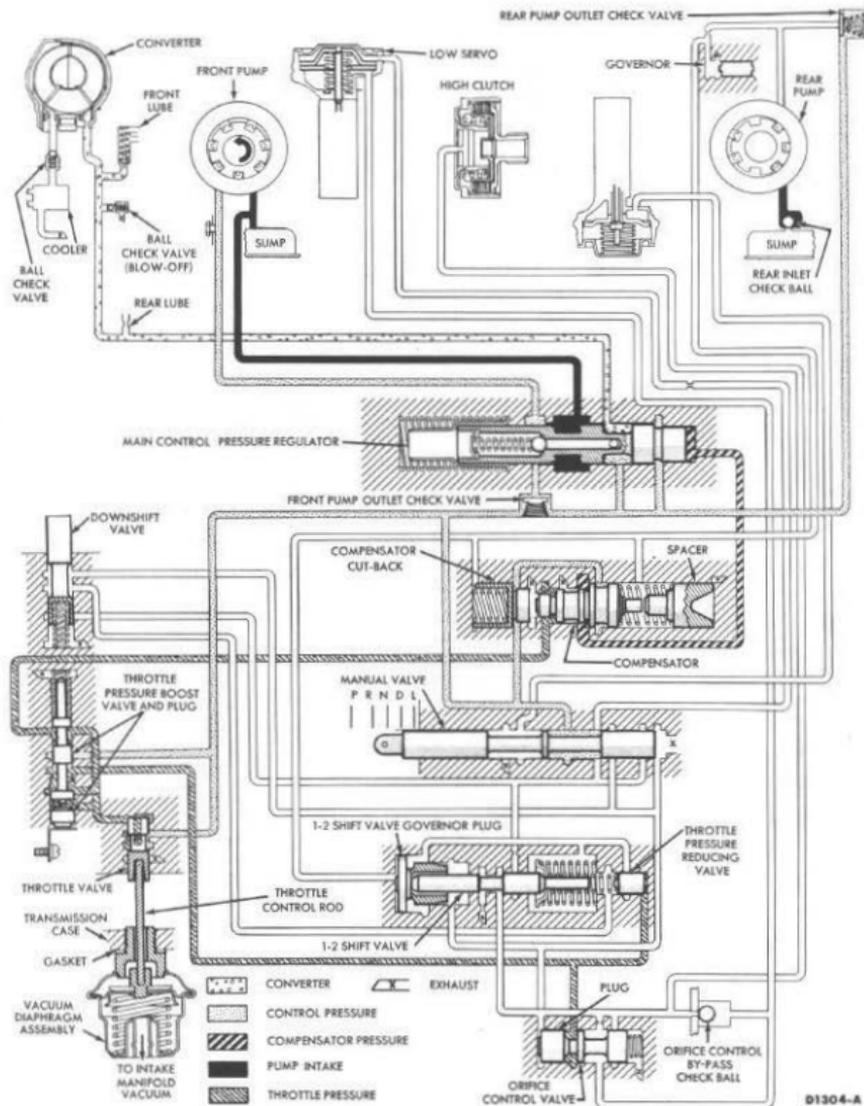

FIG. 10—Test No. 2—Control Pressure Increase
4. If the control pressure increase is above 15 inches or below 12.5 inches of vacuum, refer to Figure 10 for a guide in diagnosing the problem.